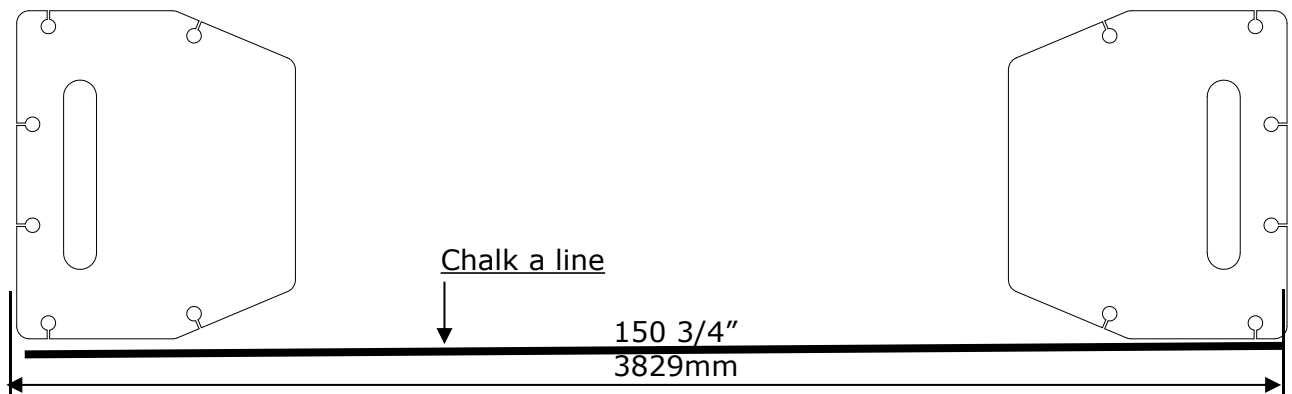

Fig. 6
B. Use a carpenter's chalk line to establish installation layout of baseplate (See Fig. 6)